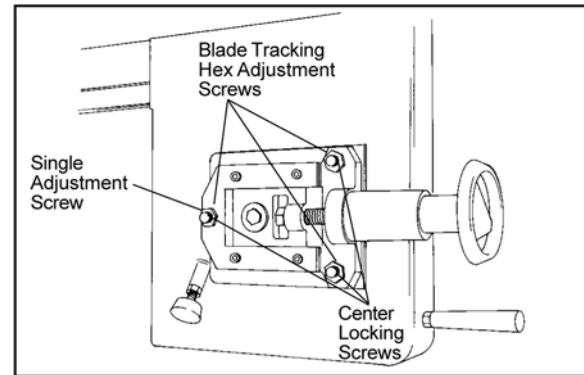

Figure 10: Blade tracking and tensioning
used properly or if the blade is correctly welded. (See Figure 10 for location of blade tracking adjustment screws.)
5. Loosen the center locking screws in all three hex adjustment screws on the blade tensioning mechanism (see Figure 10).